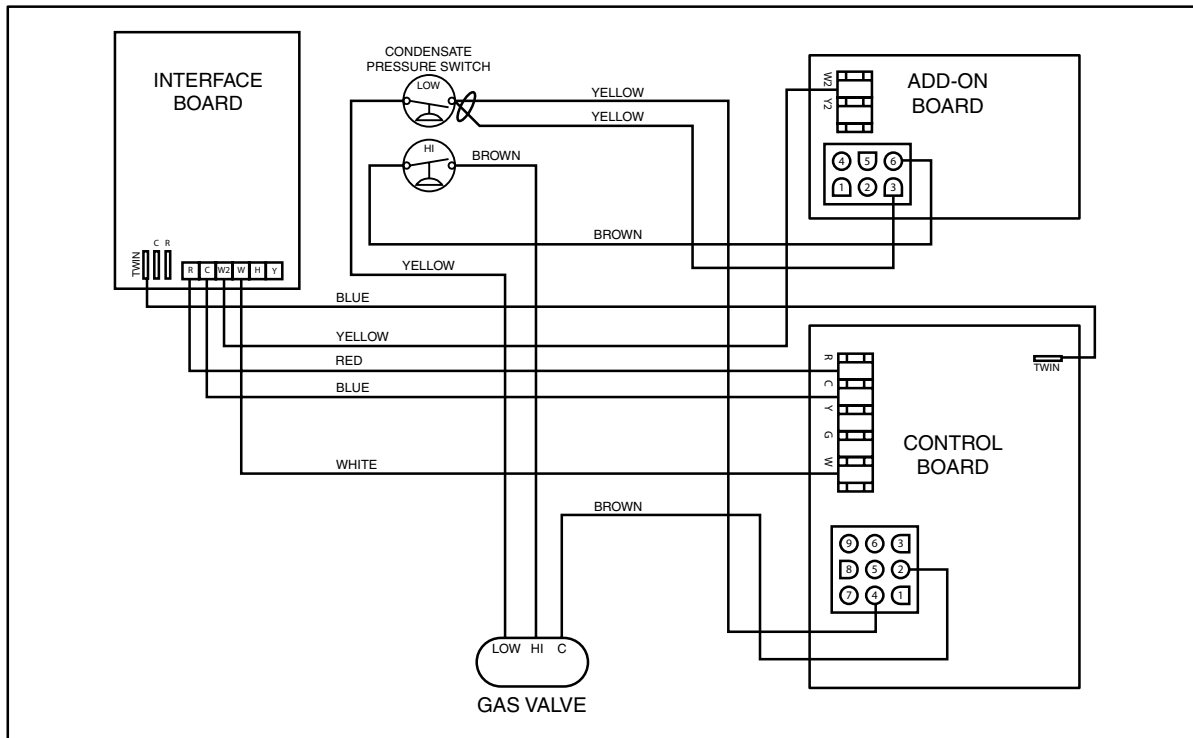

Figure 2. Conversion of 95+ \*TE Furnace
7. Connect the yellow wire from the W2 terminal of the auxiliary board in the IQ Drive blower kit to the high side terminal of the gas valve. (See Figure 2)
### Conversion of 92+ 2-stage Upflow Furnace Models \*TE Series with Factory Installed Variable Speed Blower (See Figures 2 & 4)
9. Attach the W2 wire from the Interface board to the W2 terminal on Add-on combustion board. (See Figure 2)